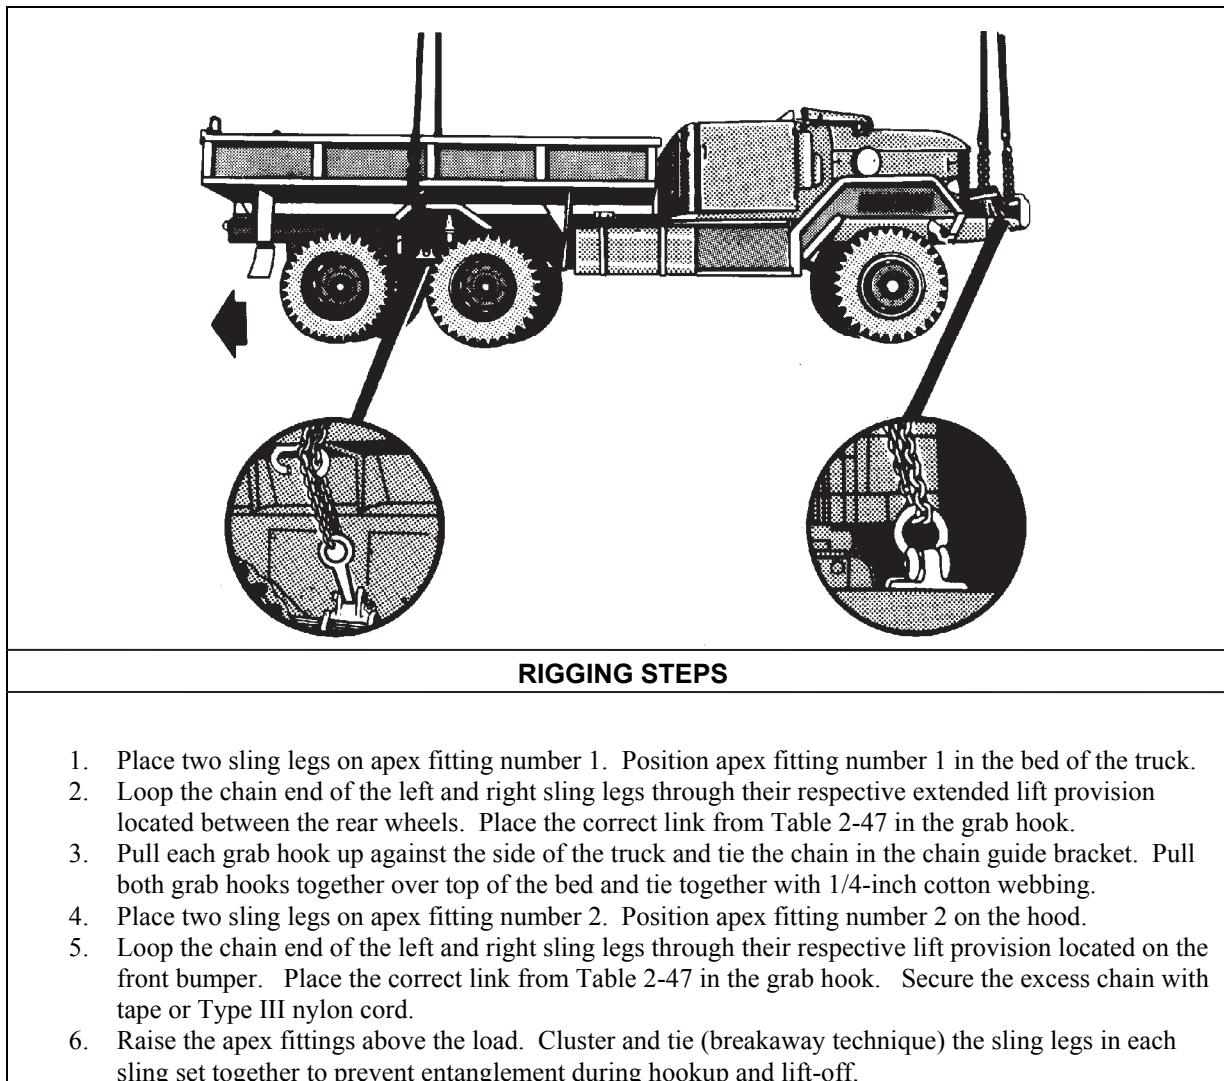

Figure 2-46. M35A3 2 1/2-Ton Cargo Truck
- **Rigging.** Rig the load according to the steps in Figure 2-46.